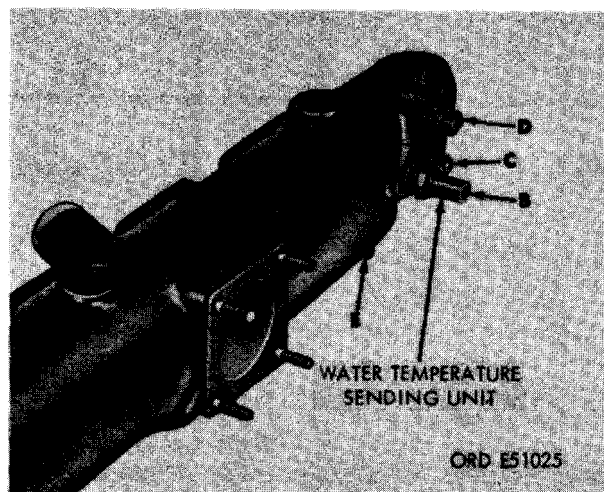

FIGURE 177. REMOVING OR INSTALLING INTAKE MANIFOLD ELBOW GASKET, WATER TEMPERATURE SENDING UNIT, AND PIPE PLUGS.
- (3) Figure 177. (A) Remove and discard intake manifold elbow gasket. (B) Remove water temperature sending unit. (C) Remove 3/8-inch square head pipe plug. (D) Remove 1/2- inch square head pipe plug. (E) Remove 1/4- inch square head pipe plug.